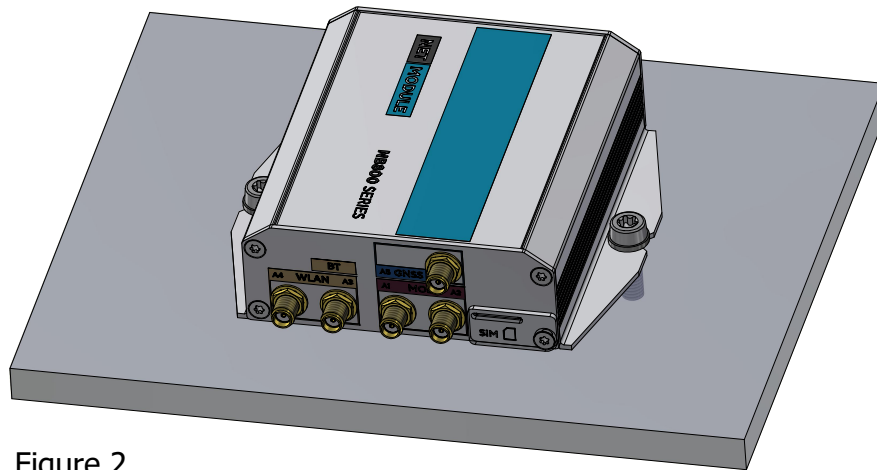

Figure 2
- 3.2 Tighten the screws | Drive type: Torx T30 | Torque: 7 Nm (Figure 2)